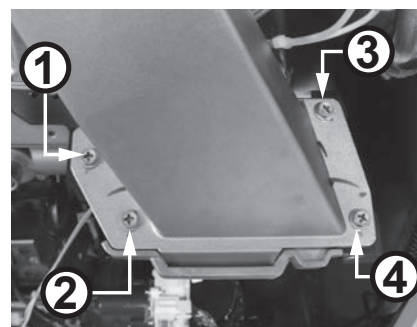

Figure 133 - Remove fan assembly screws
- 19** Locate the four (4) screws securing the fan assembly to the burner door assembly as shown in Figure 133. Use a Phillips screwdriver to remove the screws. Place the screws aside in a safe place for reinstallation.